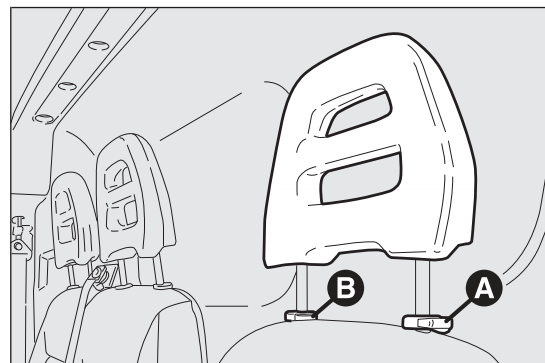

fig. 39
required position fig. 39.
- ☐ Downwards adjustment: press the button A fig. 39
and B fig. 39 at the side of the two supports